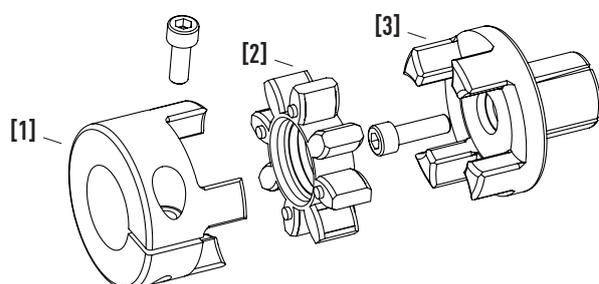

Fig. 6.47 Coupling assembly variant 1: clamping hubs with one clamping screw
- Variant 1 with one clamping screw, see Fig. 6.47